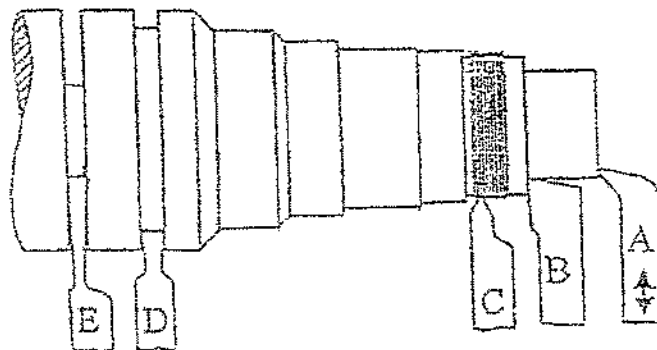

FIGURE 2
- 11.2 FIGURE 2 indicates certain centre lathe cutting tools. Write down the names of each cutting tool next to the letters (A--E) in the ANSWER BOOK.